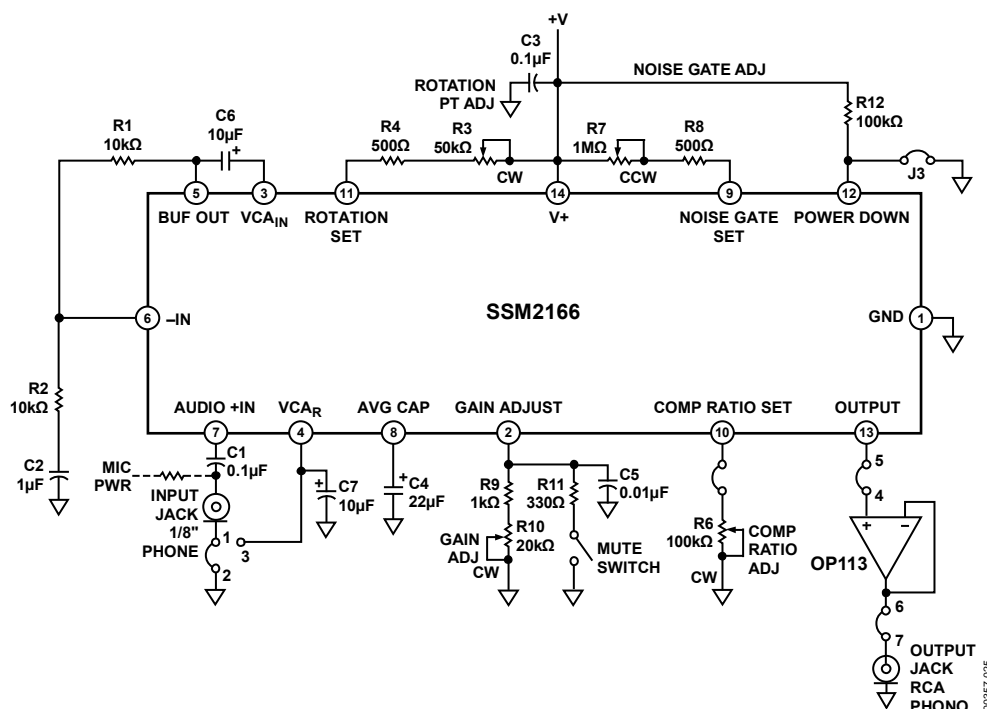
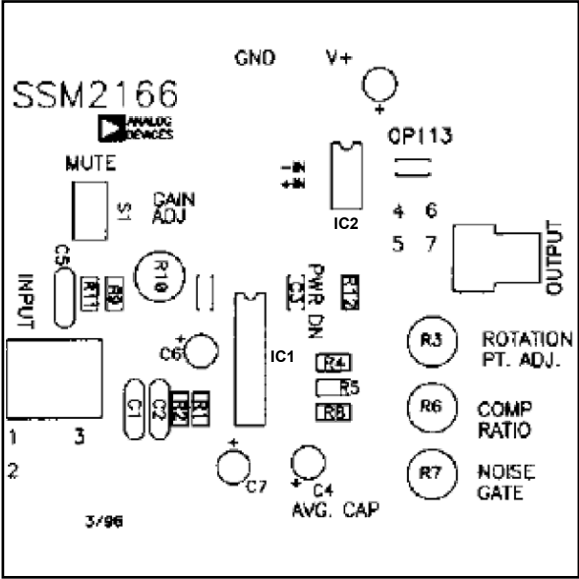
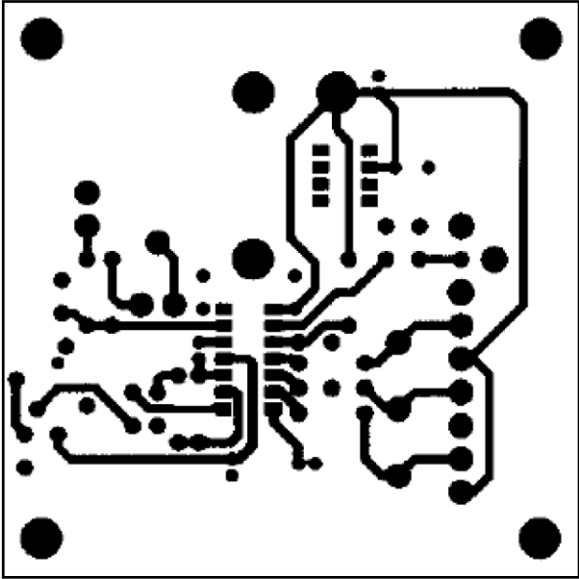
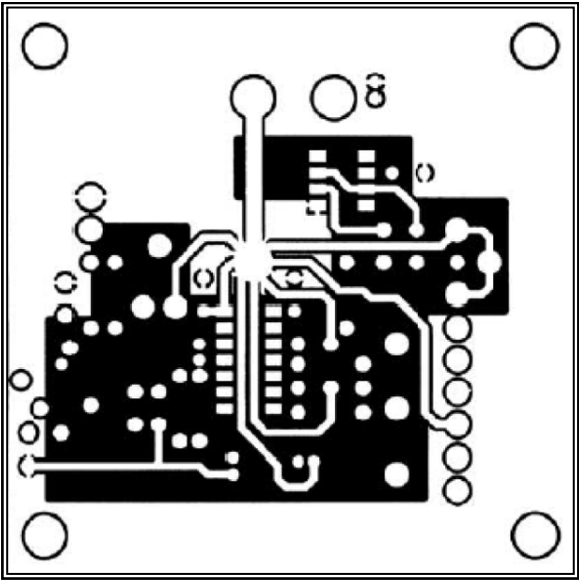

Figure 26. Evaluation Board Schematic
Figure 27. Evaluation Board Topside Silkscreen (Not to Scale)
Figure 29. Evaluation Board Backside Metallization (Not to Scale)
Figure 28. Evaluation Board Topside Metallization (Not to Scale)
The gain of the VCA at the rotation point is set by the value of a resistor,  $R_{GAIN}$ , connected between Pin 2 and GND. The relationship between the VCA gain and  $R_{GAIN}$  is shown in Figure 6. The AGC range can be as high as 60 dB. The  $VCA_{IN}$  pin (Pin 3) is the non-inverting input terminal to the VCA. The inverting input of the VCA is available at the  $VCA_R$  pin (Pin 4) and exhibits an input impedance of 1 k $\Omega$ , as well. As a result, this pin can be used for differential inputs or for the elimination of grounding problems by connecting a capacitor whose value equals that used in series with the  $VCA_{IN}$  pin to ground (see Figure 26 for more details).
Changing the scaling of the control signal fed to the VCA causes a change in the circuit compression ratio,  $r$ . This effect is shown in Figure 20. The compression ratio can be set by connecting a resistor between the COMP RATIO SET pin (Pin 10) and GND. Lowering  $R_{COMP}$  gives smaller compression ratios as shown in Figure 19, with values of approximately 17 k $\Omega$  or less resulting in a compression ratio of 1:1. AGC performance is achieved with compression ratios between 2:1 and 15:1 and is dependent on the application. A 100 k $\Omega$  potentiometer can be used to allow this parameter to be adjusted. On the evaluation board (see Figure 26), an optional resistor can be used to set the compression equal to 1:1 when the wiper of the potentiometer is at its full counterclockwise (CCW) position.
- A single-point (star) ground implementation is recommended in addition to maintaining short lead lengths and PCB runs. The evaluation board layout shown in Figure 27, Figure 28, and Figure 29 demonstrates the single-point grounding scheme. In applications where an analog ground and a digital ground are available, the SSM2166 and its surrounding circuitry should be connected to the analog ground of the system. Because of these recommendations, wire-wrap board connections and grounding implementations should be avoided.
A schematic diagram of the SSM2166 evaluation board is illustrated in Figure 26. As a design aid, the layouts for the topside silkscreen and the topside and backside metallization layers are shown in Figure 27, Figure 28, and Figure 29. Although not shown to scale, the finished dimension of the evaluation board is 3.5 inches by 3.5 inches and comes complete with pin sockets and a sample of the SSM2166.
Signal sources are connected to the SSM2166 through a 1/8-inch phone jack where a 0.1  $\mu\text{F}$  capacitor couples the input signal to the AUDIO +IN pin (Pin 7). As shown in Figure 26 and in microphone applications, the phone jack shield can be optionally connected to the ground plane of the board (Jumper J1 inserted into the board socket for Pin 1 and Pin 2) or to the  $\text{VCA}_R$  input at Pin 4 (J1 inserted into the board socket for Pin 1 and Pin 3). If the signal source is a waveform or function generator, the phone jack shield should be connected to ground.
To illustrate how easy it is to program the SSM2166, a practical example is provided. The SSM2166 was used to interface an electret-type microphone to a postamplifier. The evaluation board or the circuit configuration shown in Figure 26 can be used. The signal from the microphone was measured under actual conditions to vary from 1 mV to 15 mV. The postamplifier requires no more than 500 mV at its input. The required gain from the SSM2166 is, therefore
When building a breadboard, keep the leads to Pin 3, Pin 4, and Pin 5 short. An evaluation board is available from an Analog Devices sales representative. The R and C designations refer to the demonstration board schematic of Figure 26 and the parts list in Table 7.